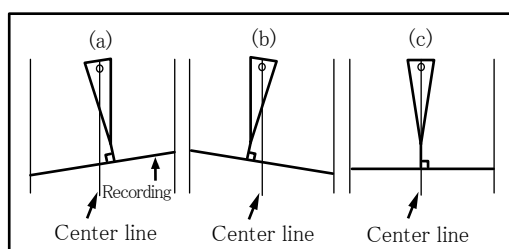

Fig.1-1 1
5. Quickly rotate the POSITION knob two or three times to check the perperndicularity of the pen, as shown in Fig.1-1 1 (c). If the pen deflects from the center line, the result will be as in (a) or (b).